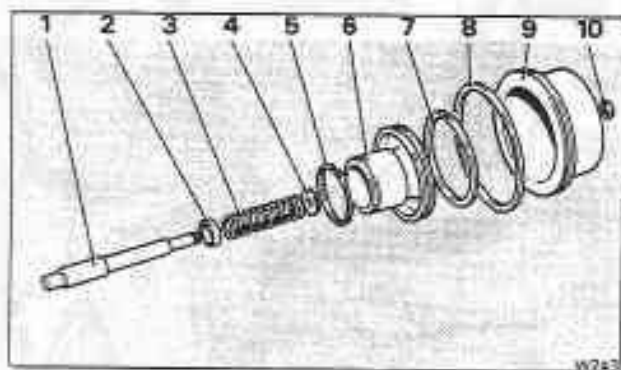

Fig. T14-3 Rear servo and accumulator
1. Remove the rear accumulator piston from the rear servo piston (see fig. T14-3).